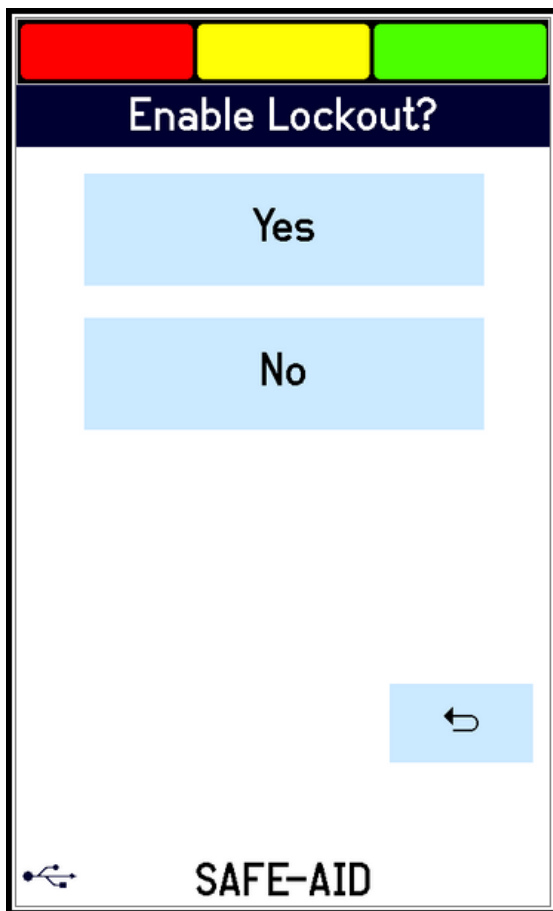

Figure 27
3. To lock or cancel a locked program select the button below Program 1 or Program 2, **Enable Lockout** screen (figure 27) will be displayed.
5. **MAIN BOOM 7.25m OUTRIGGERS** Select **Yes** – the system will now run through the complete program selection to select the program to be locked – an abbreviated description will be displayed once complete (figure 27) Repeat this for the second program if required.
2. Press the  and the Brightness adjust screen (figure 27) will be displayed. Use the slider bar to adjust the screen to the required brightness.